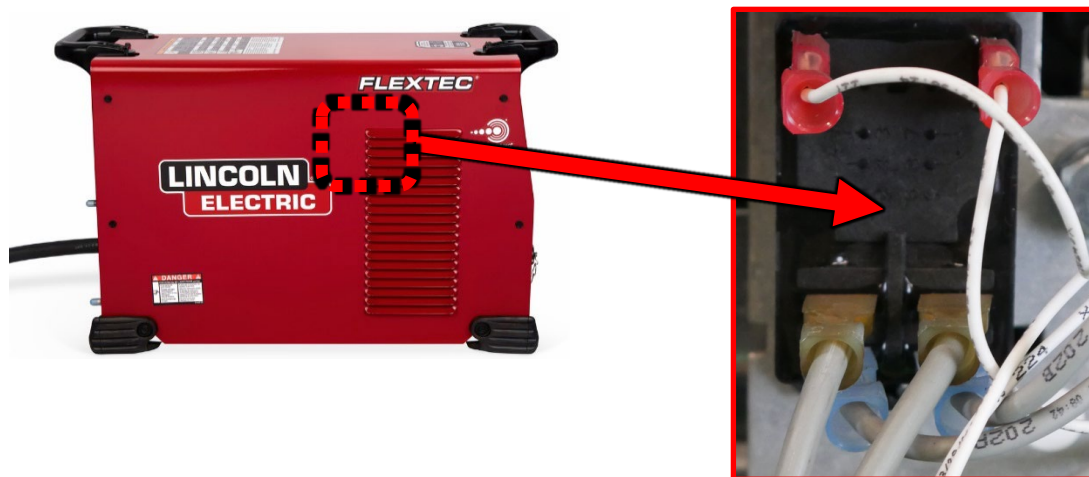

Figure F.1
1. For location of the Boost Relay refer to Figure F.1.